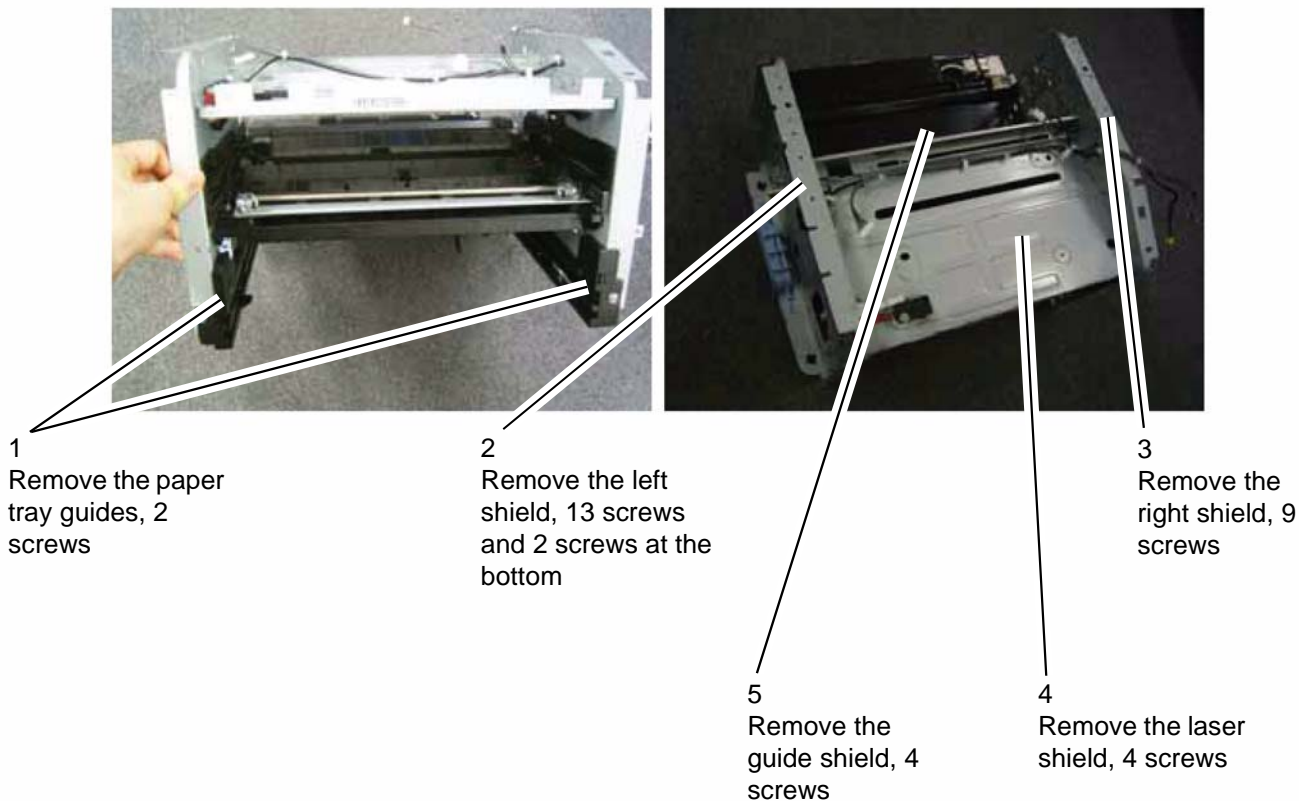

Figure 1
1. Remove the surrounding components, Figure 1.